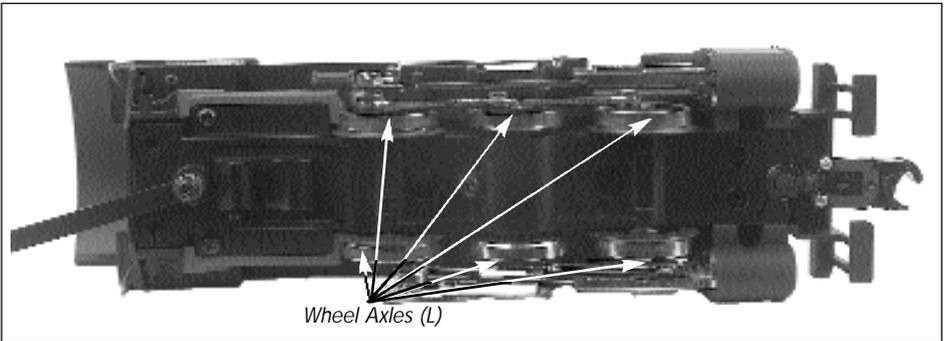

Figure 2a - Lubrication Points on the Engine
3. You should lubricate all side rods and linkage components and pick up rollers to prevent them from squeaking. Use light household oil and follow the lubrication points marked "L" in Fig. 2a & 2b on page 9. Do not over oil. Use only a drop or two on each pivot point.
This engine should be oiled and greased in order to run properly. You should regularly lubricate all side rods and linkage components and pick-up rollers to prevent them from squeaking. Use light household oil and follow the lubrication points marked "L" in Figures 2a and 2b. Do not over oil. Use only a drop or two on each pivot.